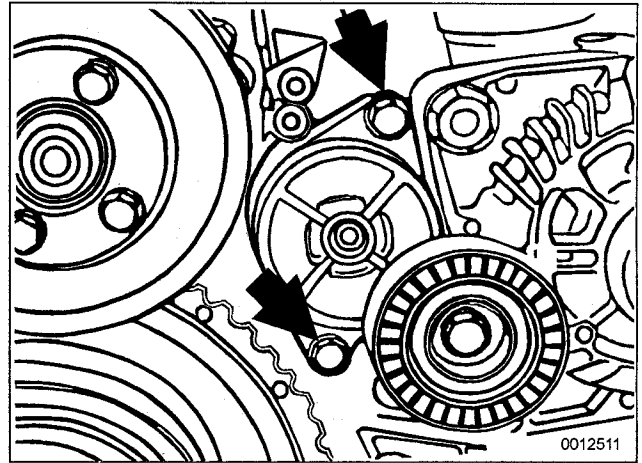

Fig. 16. Drive belt tensioner mounting bolts (arrows).
7. Remove drive belt tensioner from front of engine. See Fig. 16.